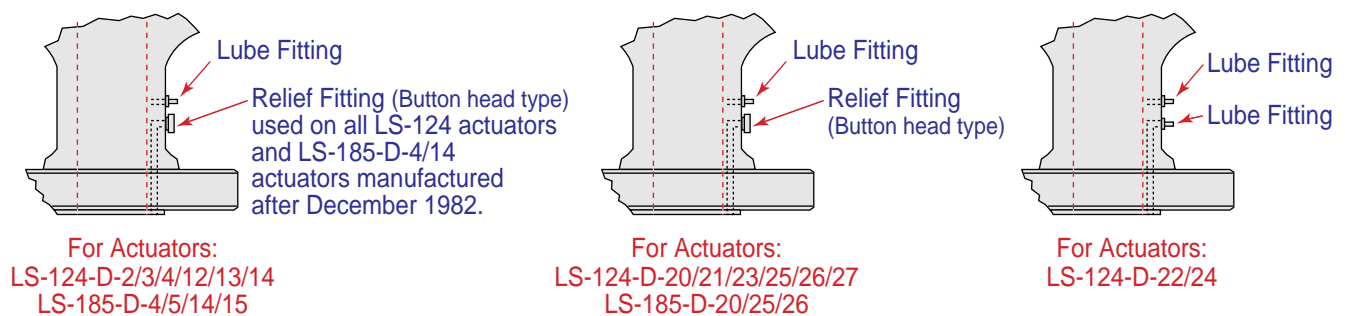

FIGURE 49
1. If removed, attach the nameplate (Item 52) with two (2) drive screws (Item 51). (See detail "D".)
2. Install the lube/relief fittings (Item 49) if they were removed or missing. See Figure 49 below for exact arrangement of fittings. (Note: Failure to install the lube and relief fittings in the proper hole could cause the valve/actuator to lock-up.)